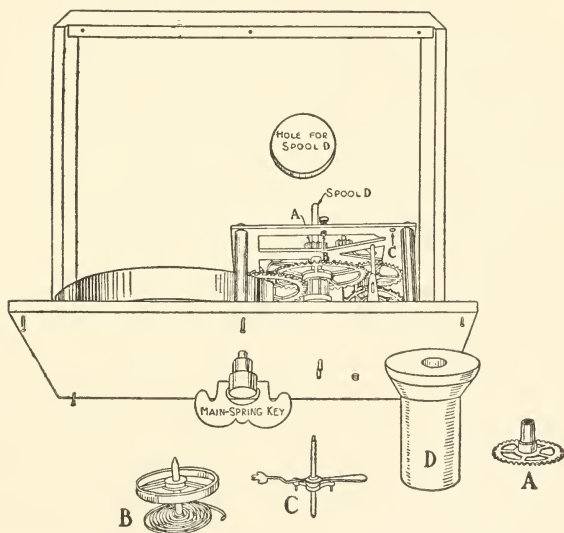

FIG. 139. — How the Clockwork Motor is Fastened to the Cigar-Box Cover.
**To Prepare the Clockwork** for use, remove it from its case, detach the hands and face, and pry off the small wheel pivoted directly under the hands; this wheel is shown at *A* in Fig. 139. Remove also the *balance-wheel*
*B* (Fig. 139) and the *lever C* pivoted next to it, to increase the speed of the remaining wheels.
holes through the cover with a gimlet for the *pivot* ends on the back of the works to set into. Remove the lower flange from a spool (*D*, Fig. 139) and fasten the spool on to the central pivot of the clockwork in the position formerly occupied by wheel *A*. The hole in the spool will be too large for the pivot and must be filled up with sealing-wax. To do this, hold a piece of sealing-wax above the spool and melt it with a lighted match, allowing it to drip into the hole until the latter is about half full, then press the wax down with the end of a match until it is compact, smooth it off on the bottom of the spool, and make a dent in it with a pencil to indicate the exact center of the hole. Heat the end of the pivot with a lighted match, and press it into the dent in the wax, being careful in doing so to get the spool straight upon the pivot. Cut a hole through the bottom of the cigar box belonging to the cover to which you have attached the works, for spool *D* to project through (Fig. 139).
**To Operate the Merry-go-round.** The key by which the mainspring is wound up is shown screwed in place on the under side of the cigar-box cover in Fig. 139. While winding the mainspring, it will be necessary to have some
**The Clockwork Motor** for the Ferris wheel is fastened to the cover of a cigar box just as that for the merry-go-round was fastened (Fig. 139), but the length of the box is cut down as much as the clockwork will allow to make the box as square and compact as possible.
ter of the hole in spool *D* (Fig. 139) is on a level with the spool hub on the opposite support. Nail the supports to a 10-inch by 12-inch board, 8 inches apart, and fasten a cigar box between them for